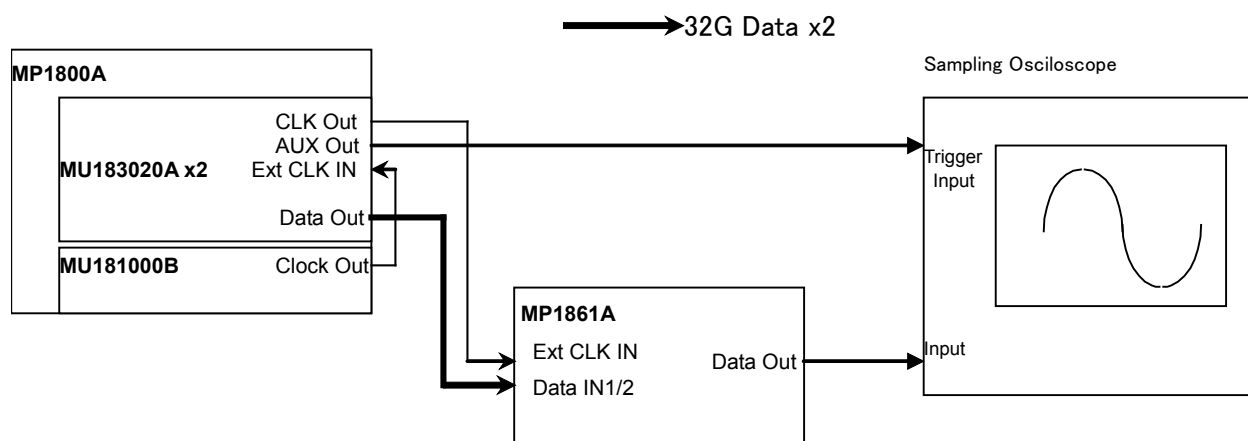

Figure 6.3.2-1 Connection Diagram for Waveform Test
1. Connect the cables among the measuring instruments, referring to Figure 6.3.2-1.